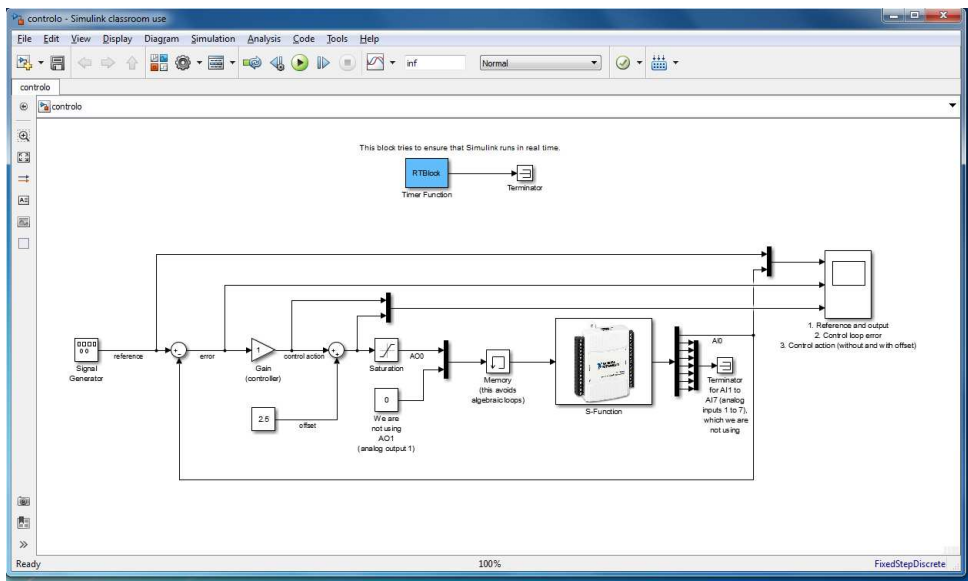

Figure 4.4: File control1.mdl.
7. Use SIMULINK file `control.mdl` (figure 4.4) to control the plant. That file uses a 50 ms sampling time, and provides a 2 V pp, 0.2 Hz square wave as reference for the control loop. Give different values to variable `K`, which is the loop's proportional controller, and see the different behaviour of the response.